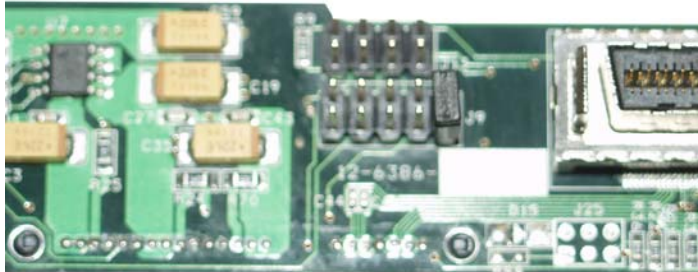

Figure 5 - Installing shunt
- a. See **Figure 5** for details on how to install shunt.